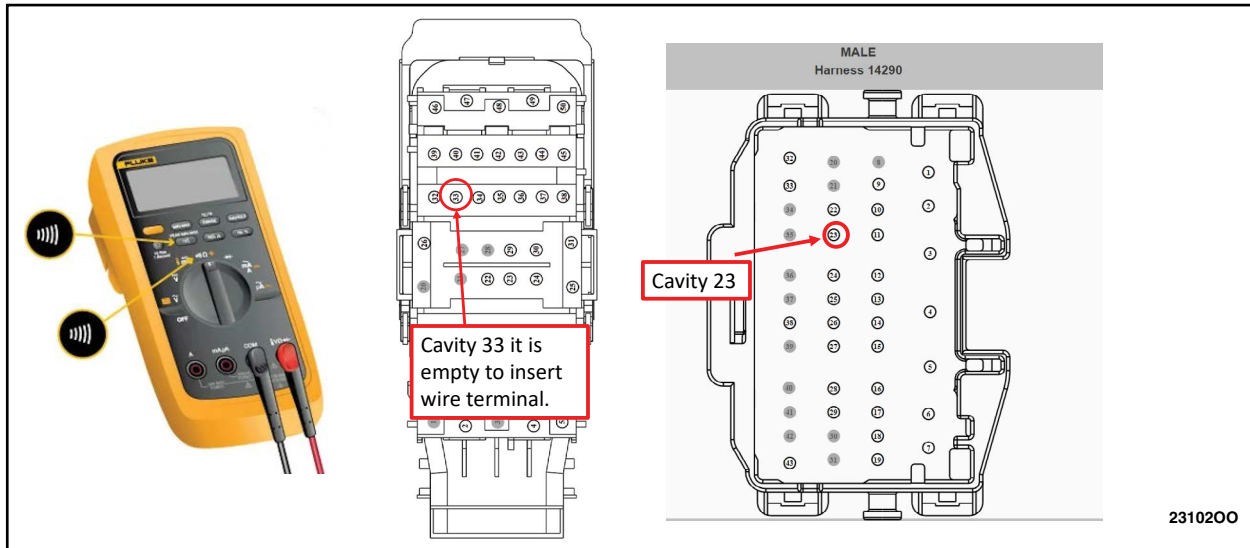

FIGURE 23
27. Using a multimeter, set the continuity option and volume loud enough to hear and test the continuity from the PDB connector on cavity 33 to C222 on cavity 23. See Figure 23. Did the multimeter emit a sound?